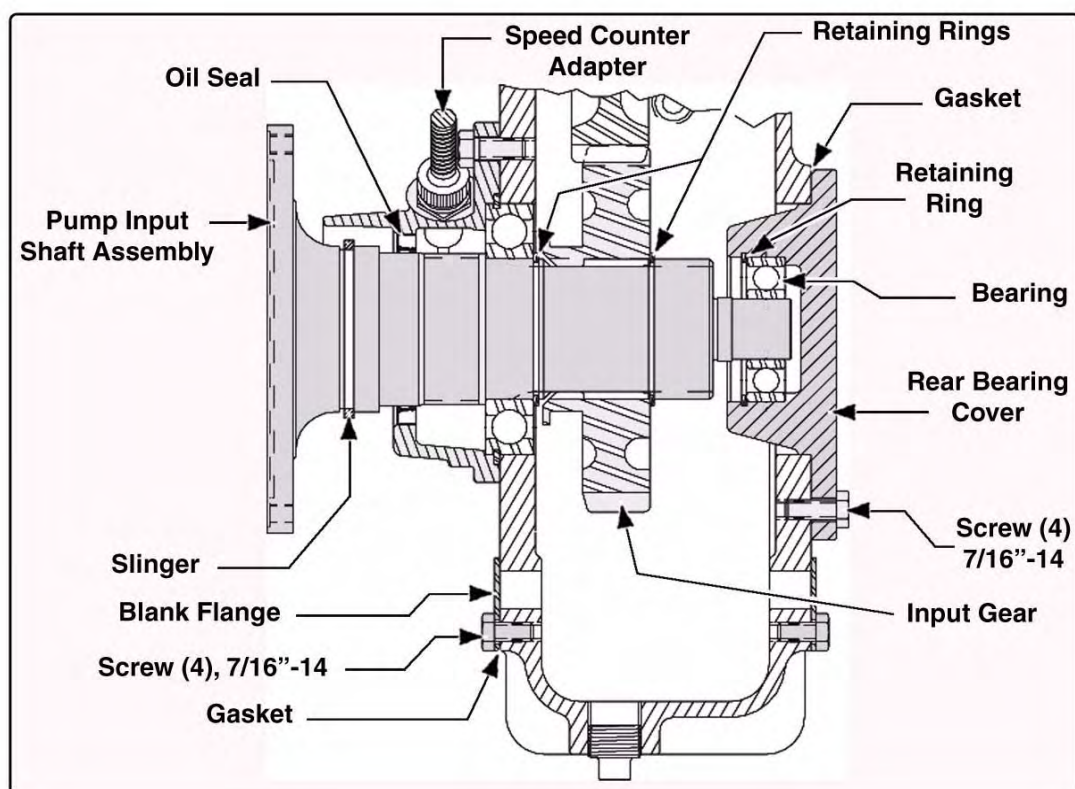

Figure 6b-4: PTO Drive Option
- Electrical switches from the gearshift cap - see Figure 6b-3: "Power Gearshift Assembly" on page 100.
(See Figure 6b-1: "Intermediate Shaft and Sliding Gear, Typical G Series Gearbox" on page 97.) Also see Figure 6b-4: "PTO Drive Option."
1. Remove the four (4) 7/16"-14 screws securing the rear bearing cap and gasket to the gearbox housing and remove the cover. Scrape all gasket material from both mating surfaces being careful not to scratch the sealing surfaces. (See Figure 6b-4: "PTO Drive Option.")
(See Figure 6b-3: "Power Gearshift Assembly" on page 100.)
(See Figure 6b-1: "Intermediate Shaft and Sliding Gear, Typical G Series Gearbox" on page 97.)